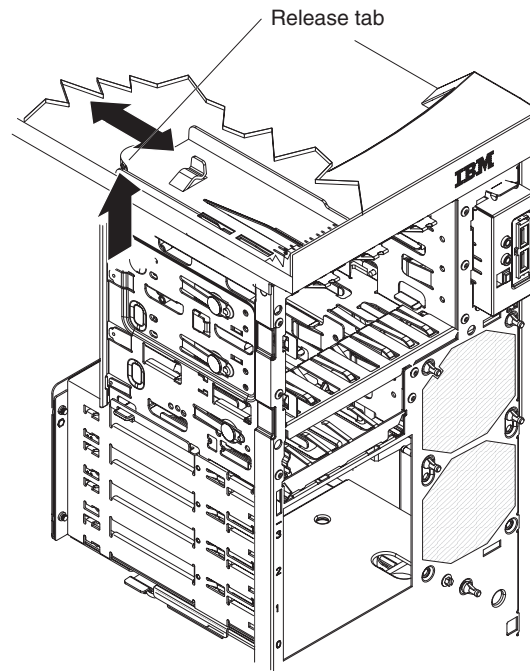

Figure 39. Removing the power switch/LED assembly
7. From inside the chassis, press inward on the power-switch release tab (see Figure 39).
1. From inside the chassis, push the power switch/LED assembly toward the front of the chassis until the assembly engages the power switch release tab and clicks into place (see Figure 39).